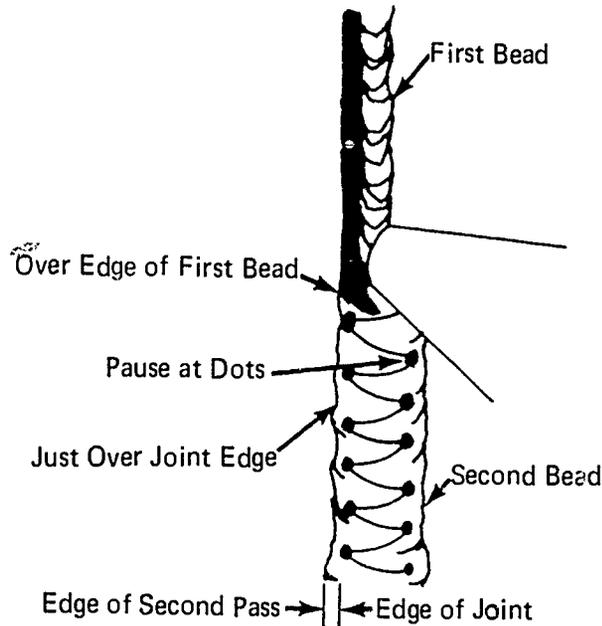

FIGURE 8
- J. For second pass, (cover pass) hold gun so electrode wire has no forward angle and use a wider weaving motion pausing at sides of joint; overlap edge $1/16"$ with a slight crown on cover pass (Figure 8)